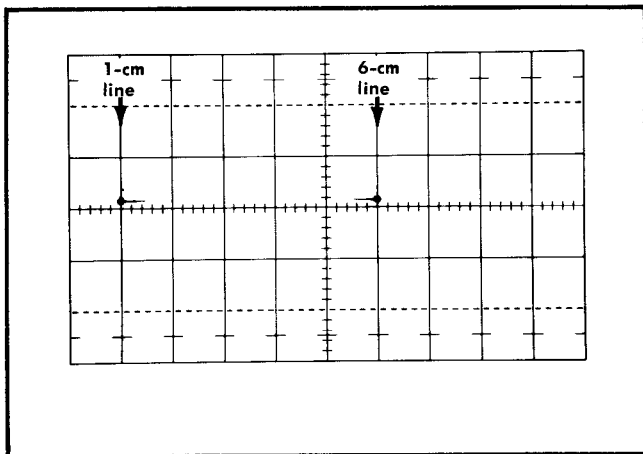

Fig. 2-2. Oscilloscope display for adjusting external horizontal deflection factor ($\pm 4\%$).
13. With the oscilloscope Horizontal Position control, position the left dot to the 1-cm graticule line (see Fig. 2-2).